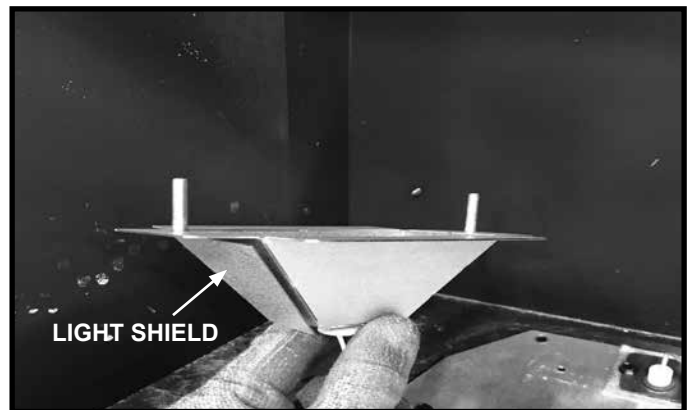

Figure 5
2. Place a gasket over each light tub and then install them from under side of the firebox bottom. Make sure the light shield is toward the front of the firebox. Once threaded studs are inserted through the firebox bottom, use one 10-32 nut on each threaded stud to hold the light tubs in place. See Figure 5, 6 and 7.